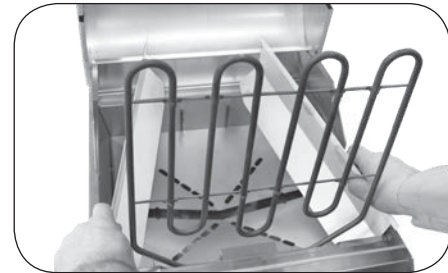

Fig. 20-3 Remove side liners
4. Lift the two side liners up and out (Fig. 20-3).